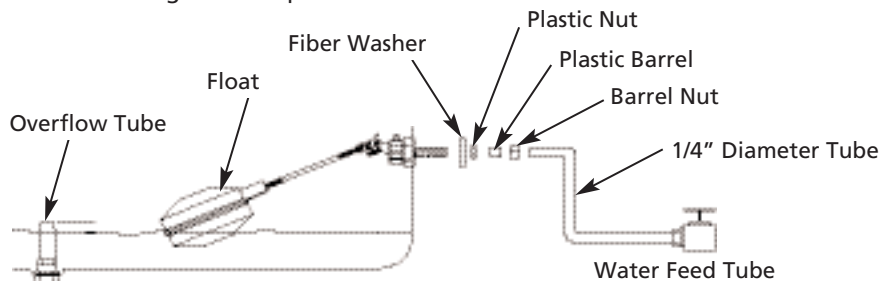

Figure 2 – Float Installation
5. Place the plastic barrel in the barrel nut and continue to assemble the rest of the parts of the float body as illustrated in Figure 2.